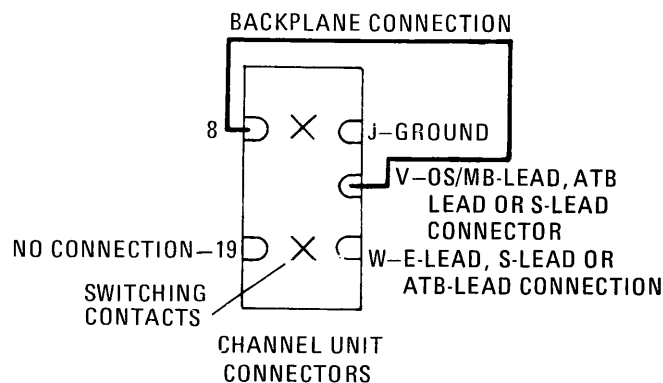

Fig. 7—Lead Conditioning for Empty Channel Unit Slot
3.07 Connector empty, parallel contact shorting is employed at two contact locations on all channel unit connectors to provide automatic lead conditioning at channel unit removal. (See Fig. 7.)